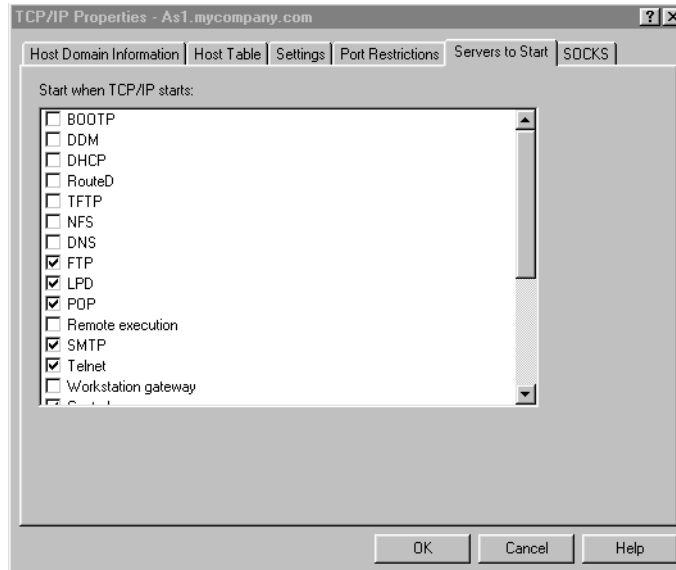

Figure 328. Servers to Start
- Click the **Servers to Start** tab to select the currently installed servers that you want to start automatically when TCP/IP starts. Check the servers corresponding check box. If you have BOOTP, DHCP, and BOOTP/DHCP servers, only one of them can be selected. Figure 328 shows the Servers to Start dialog.